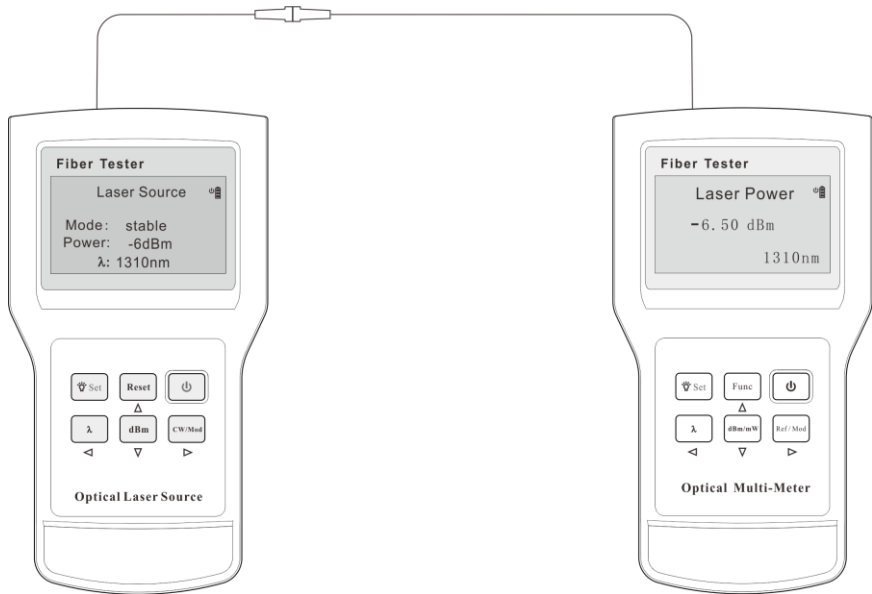

Figure 1.
- 3) )Connect the optical power meter to the light source meter using a fiber. Ref. Figure 1.